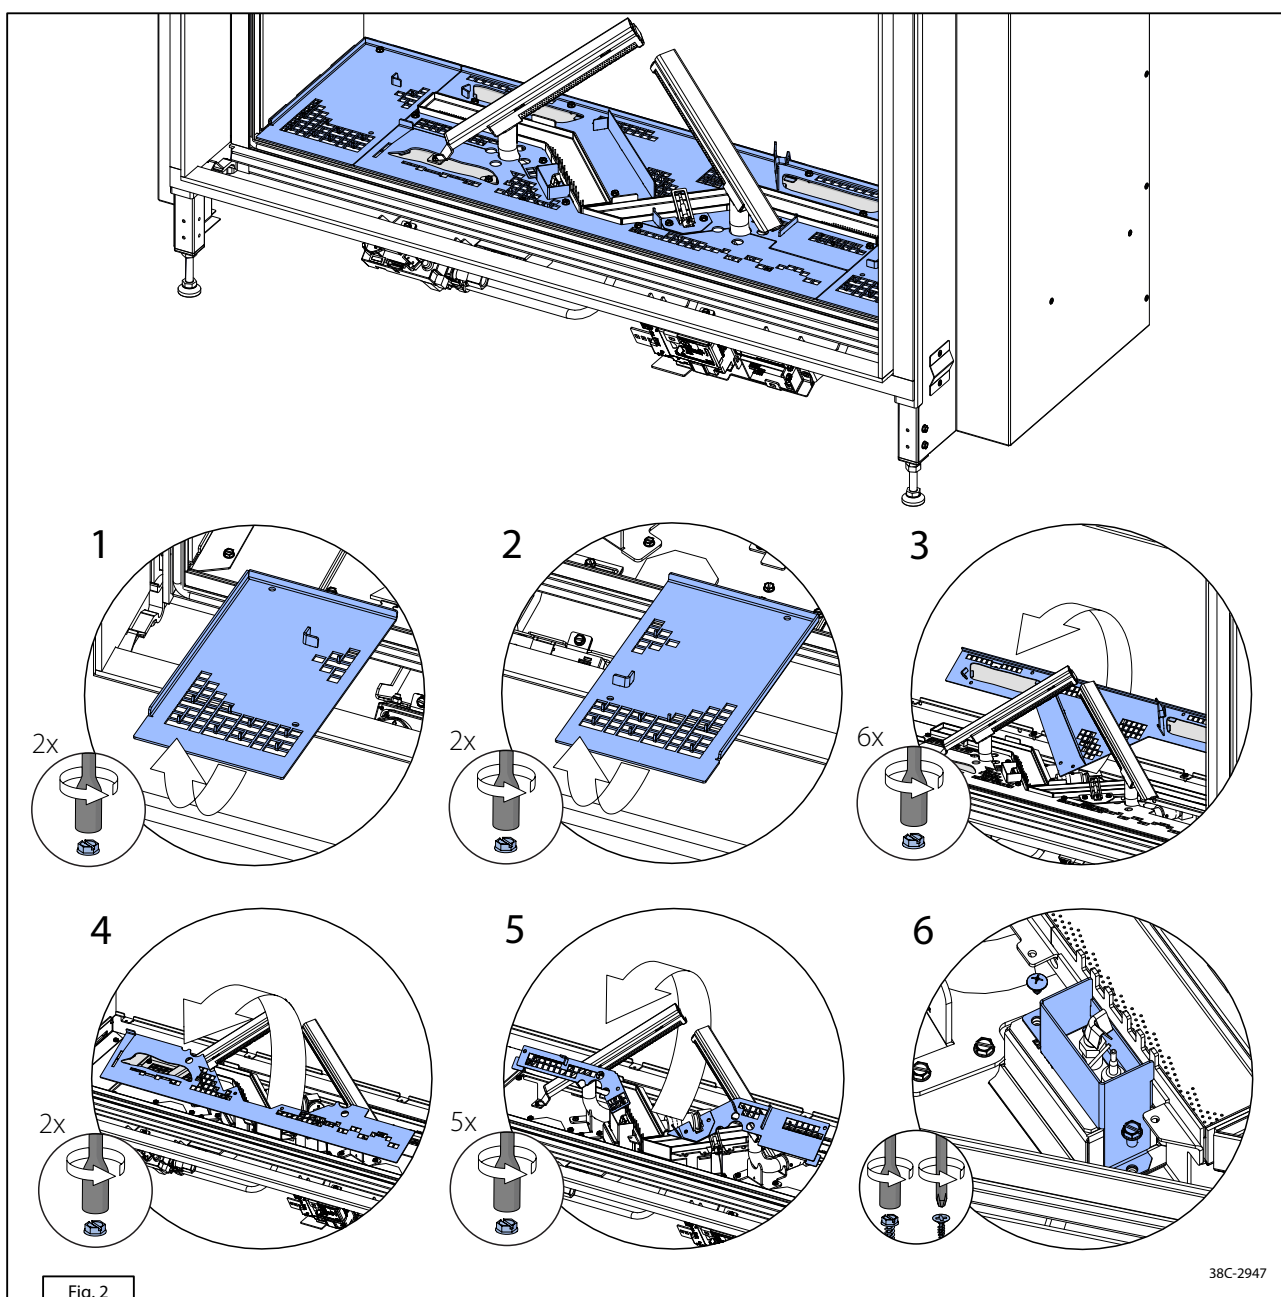

Fig. 2
The Wifi-module has 2 different LED indicators and a reset button (Fig. 2). The different LEDs with their related colors are listed in Table 1-1.
When dismantling the burner surface, proceed as follows (see Fig. 2):
- Adjust the adjustment rings of the left main- and upright burners using spacer 14 (G) and spacer 12 (E), with the allen key provided in the conversion kit (Step 1).
- Adjust the adjustment ring of the right main burner using spacer 10.5 (F) with the allen key provided in the conversion kit (Step 2).
- Adjust the adjustment ring of the right upright burner using spacer 7 (H) with the allen key provided in the conversion kit (Step 3).
- Carry out steps 1 to 6, Section 1.2 (Fig. 2), in reverse order to re-assemble the appliance.